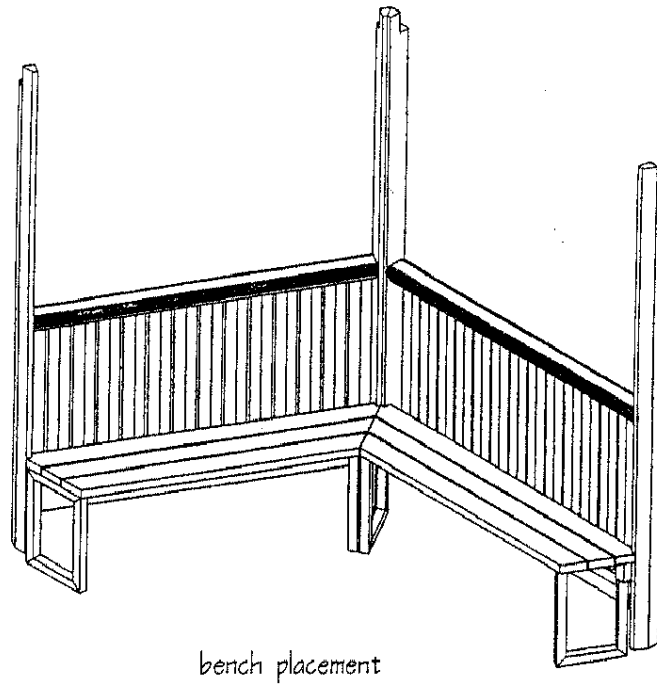

Figure D15
2. The back of each bench has a notch which will fit against the gazebo Post. Position each bench and screw in two places: fasten the legs into the DECK, and fasten the Balusters into the Bench seat. See **Figure D15** and **D16**.